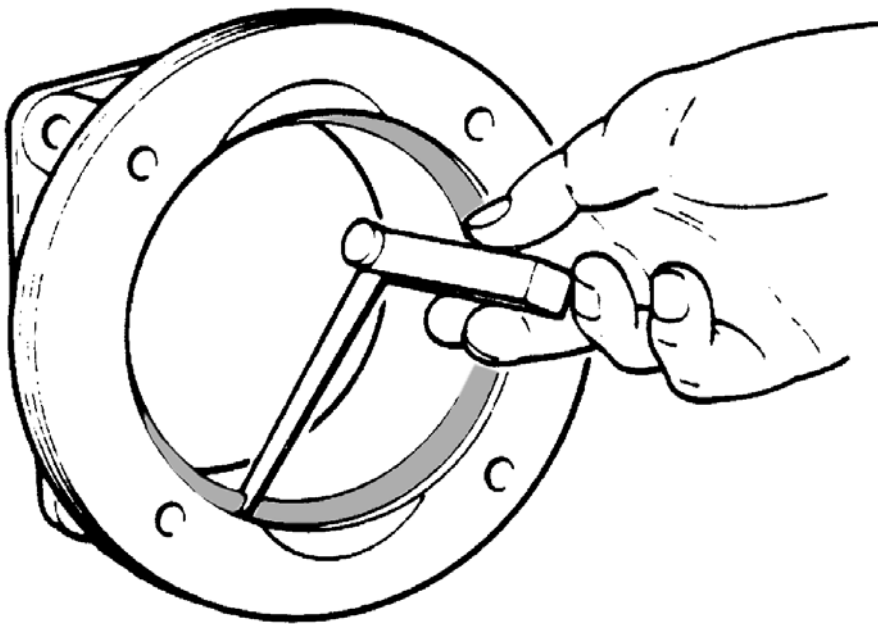

Fig. 68 Checking the piston ring gap
- Insert the piston rings in the corresponding cylinder approx. 10 mm (3/8") from the top edge. Check the piston ring gap with feeler gauge part no. N20889, see Fig. 68.